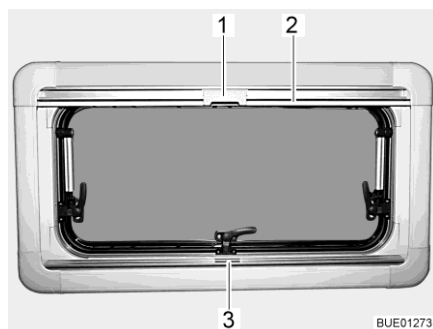
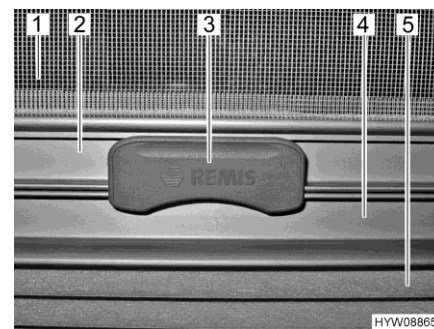

Fig. 16 Hinged window
Fig. 17 Catch
Roman shade The Roman shade (Fig. 17,5) is located in the lower blind box.
Closing: ■ Seize the Roman shade by the centre of the holding bar (Fig. 16,3 and Fig. 17,4), pull it from the bottom to the top and release it at the desired height. The Roman shade will stay at this height.
Insect screen The insect screen (Fig. 17,1) is located in the upper blind box.
Closing: ■ Pull the insect screen down by the holding bar (Fig. 16,2 and Fig. 17,2), until it touches the holding bar of the Roman shade (Fig. 17,4).
■ Clip the catch (Fig. 16,1 and Fig. 17,3) on the insect screen into the holding bar of the Roman shade. When the catch is locked, the Roman shade and the insect screen can be adjusted together.
Opening: ■ Push the catch (Fig. 17,3) on the insect screen upward.
■ Move the insect screen back slowly on the holding bar (Fig. 16,2).